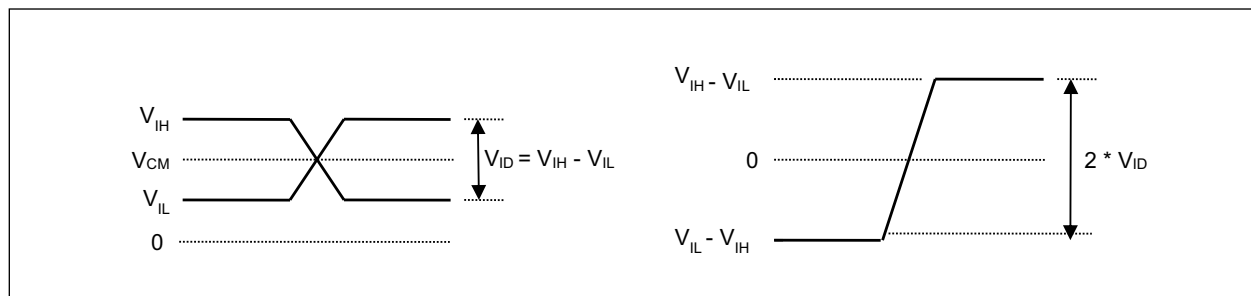

FIGURE 5-1: Differential Input Voltage Levels.
- Note 4:** Input differential voltage is calculated as $V_{ID} = V_{IH} - V_{IL}$ where V_{IH} and V_{IL} are input voltage high and low respectively. It should not be confused with $V_{ID} = 2 \times (V_{IH} - V_{IL})$ used in some data sheets. Please refer to Figure 5-1.